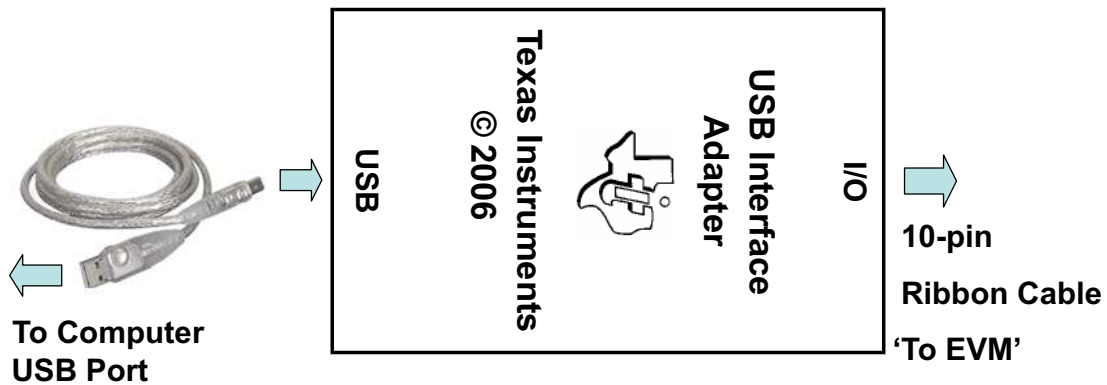

Figure 2. Connections of the HPA172 Kit
(F) Connect HPA172 USB interface adapter to the computer with a USB mini-cable and to J4 with the 10-pin ribbon cable. The connections are shown in Figure 2.